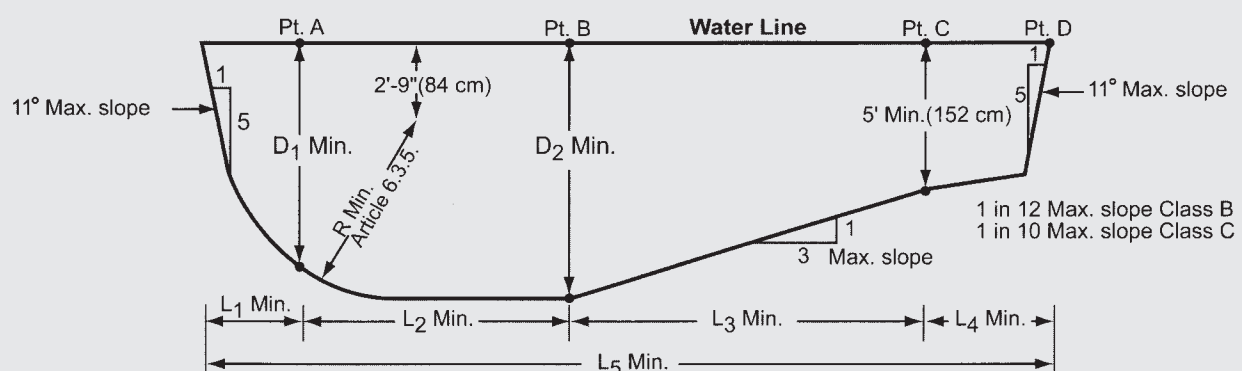

Figure 1 - Construction dimensions for water envelopes for Class B and Class C pools
6.5.1 When diving equipment is installed, it shall conform to the specifications set forth in 7.2.1 through 7.2.5.6. Equipment shall be located in the diving area of the pool on the appropriate ANSI/NSPI pool type (or other water envelopes specified by the diving equipment manufacturer) in accordance with the manufacturer's installation instructions and the minimum dimensions as shown in figure 1. Competitive diving equipment shall not be installed on Class B and Class C pools.
6.6 The manufacturer of the diving equipment shall specify minimum water envelopes for its products. They may refer to the water envelope type of their choice by dimensionally relating their products to Point “A” on that water envelope. Point “A” as shown in figure 1 is designated as the point of origin on the water surface for the water envelope dimension.
6.6.3 Point A, as shown in figure 1 and table 2, shall be the referenced point of origin for all dimensions defining a minimum water envelope.